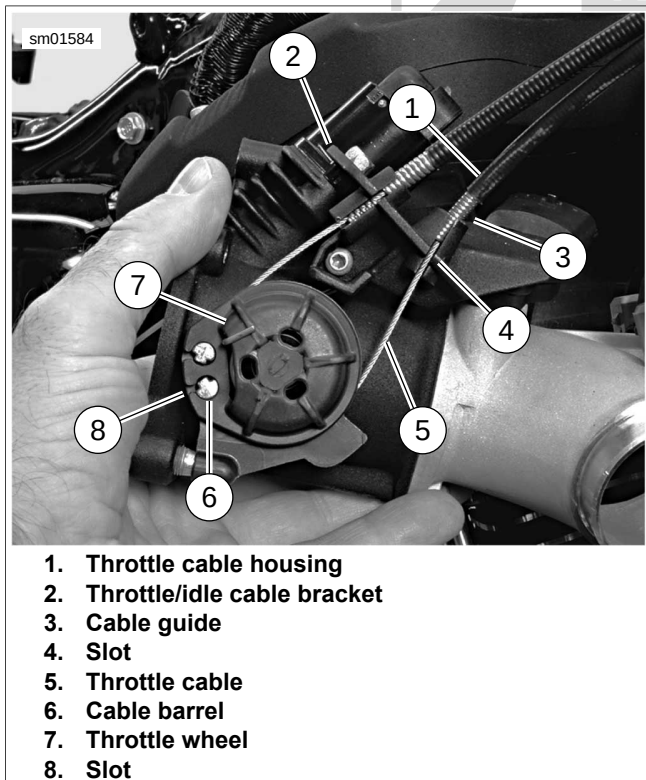

**Figure 4-34. Intake Manifold Mounting Screws: Left Side**
12. See Figure 4-34. Loosen two screws (2) securing intake manifold to heads on left side of vehicle, but do not remove screws.
1. See Figure 4-34. Make sure two mounting screws (2) are screwed into heads two or three turns.